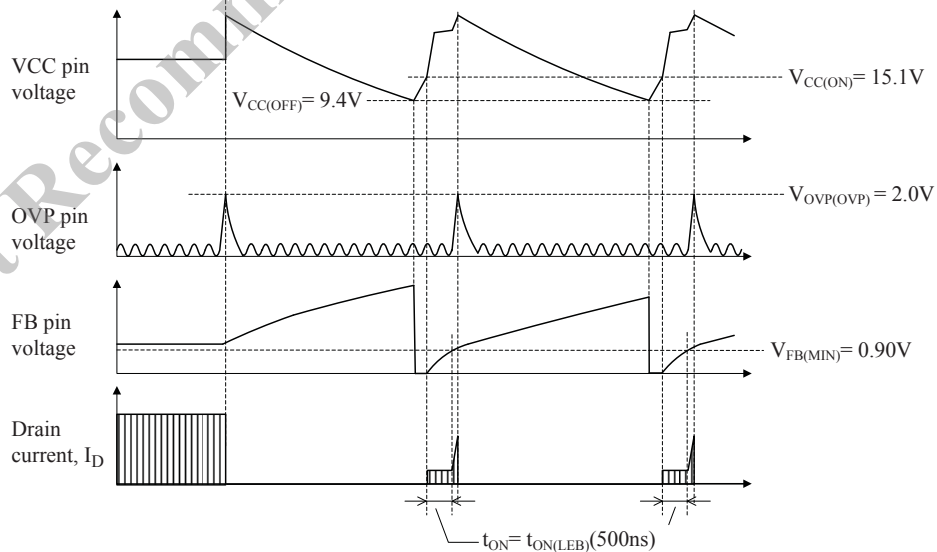

Figure 39. Waveforms when OVP pin OVP is being activated (LC552xD and LC552xF)
- OVP pin Overvoltage Protection. Figure 39 shows the OVP pin OVP function. When the OVP pin voltage with reference to the S/GND pin reaches and exceeds $V_{OVP(OVP)} = 2.0\text{ V}$, OVP is activated. This input voltage must be less than the absolute maximum rating, 5V.